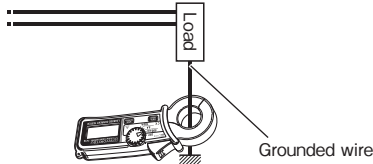

Fig.2 Measuring earth leakage current
- (3) Measuring earth leakage current (See Fig.2): Clamp onto a grounded wire. Measured current value is shown on the display.